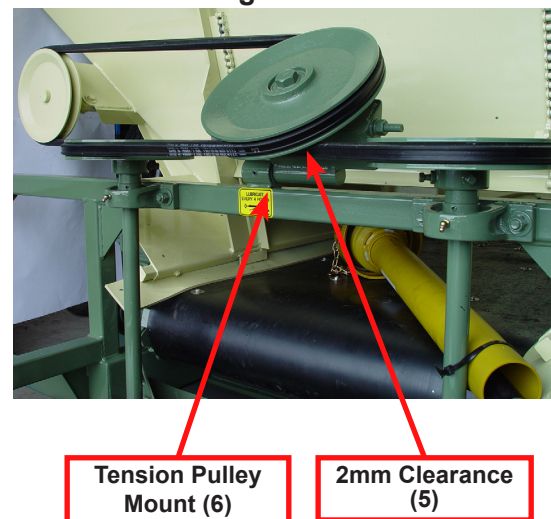
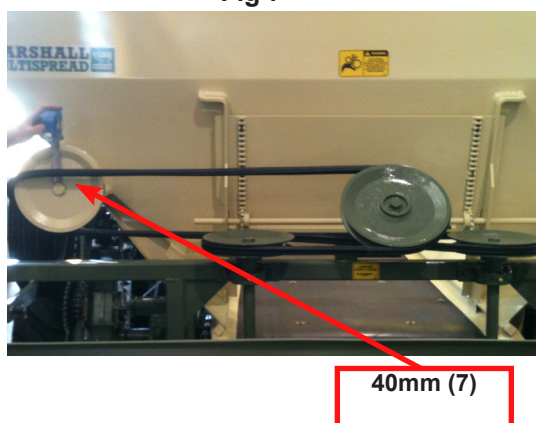

Fig 7
Fig 8
For the correct V-Belt tension see figure (7), once tension has been taken up there should be approximately 40mm from the top of the V-Belt to the top of the side shaft as shown. (Fig 7). To adjust tension loosen off the tension pulley shaft nut (Fig 3) then tension the adjuster (Fig 8).